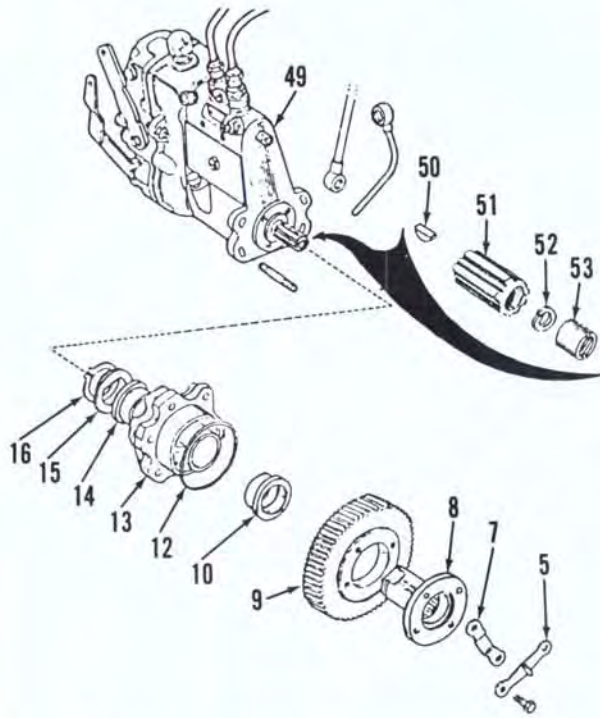

Fig. 60—Exploded view of injection pump and drive used on Model L260.
Fig. 60. Splined drive sleeve (51) is keyed to tapered injection pump camshaft and retained by a round nut (53). It will remain with pump unless pump is renewed.